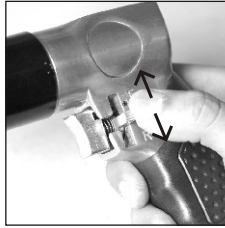
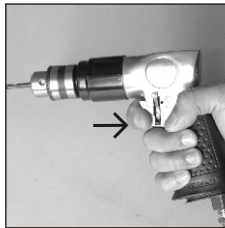

Figure 4
Figure 5
5. Push F/R valve (Part #8) upwards (to "F" position) and press on the trigger. The tool starts to work. (See Figure 4 & Figure 5)
6. Push F/R valve downwards (to "R" position) and press on the trigger whenever you are releasing the drill out of workpiece. (See Figure 4 & Figure 5)